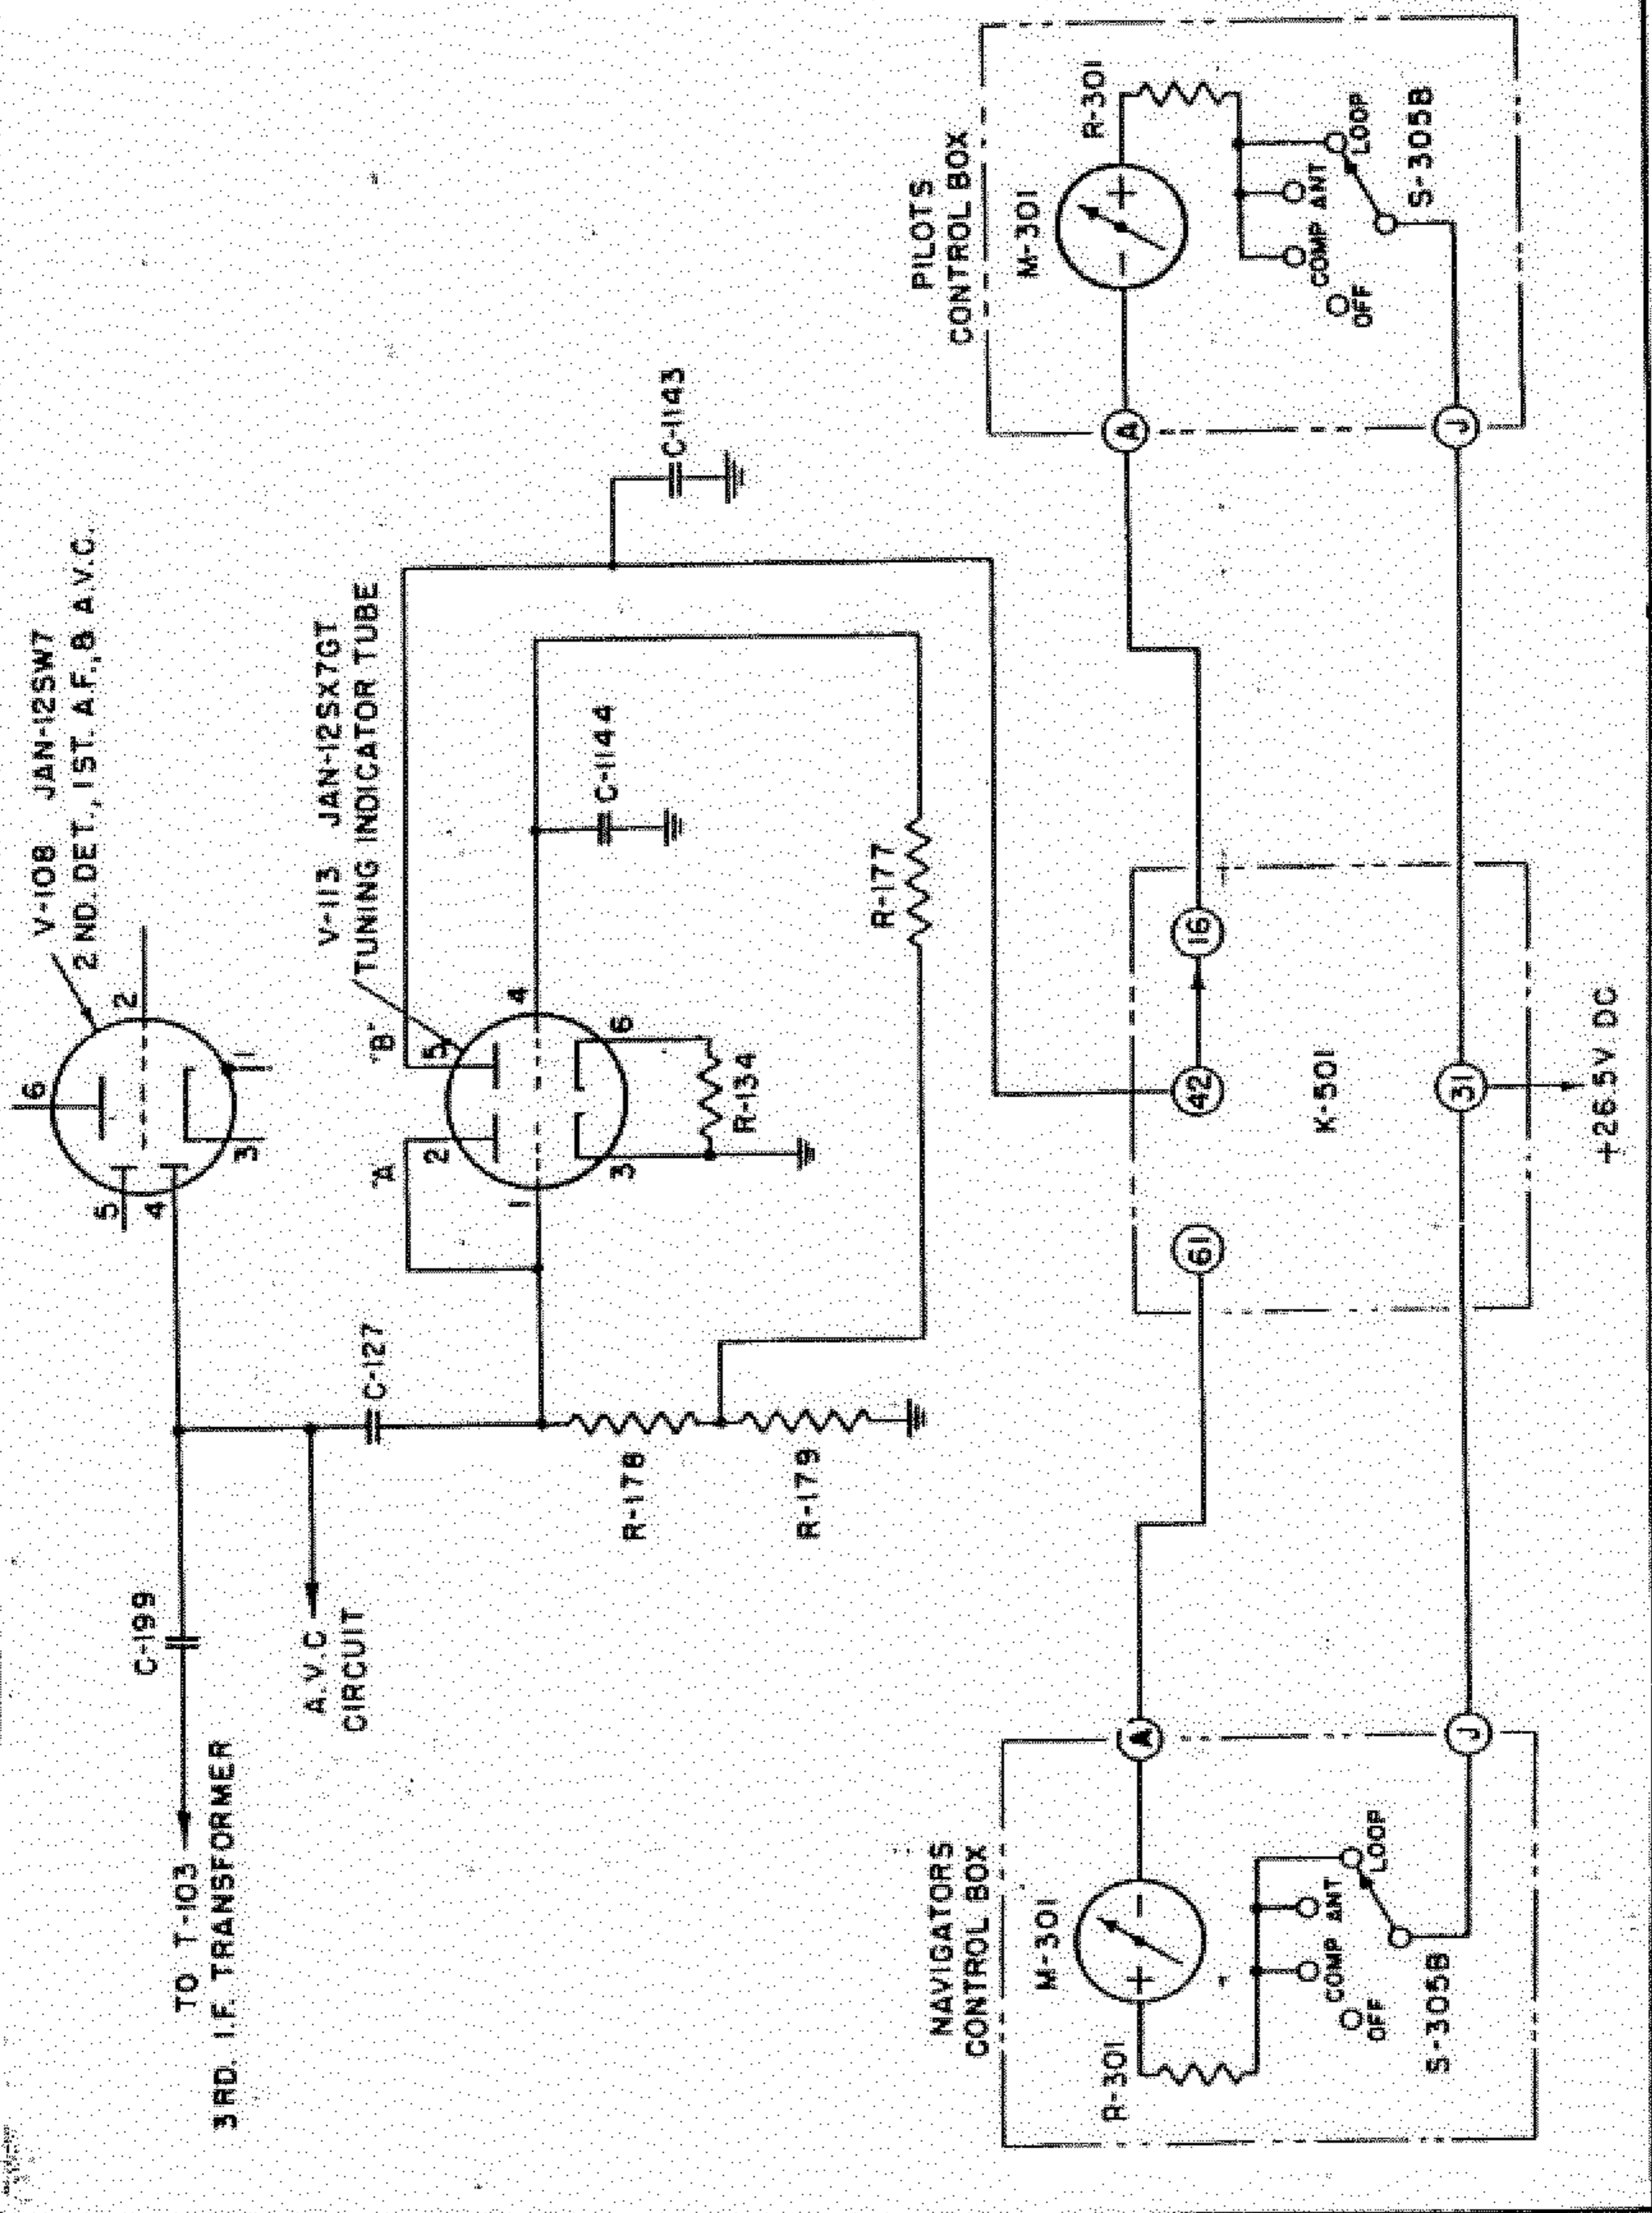
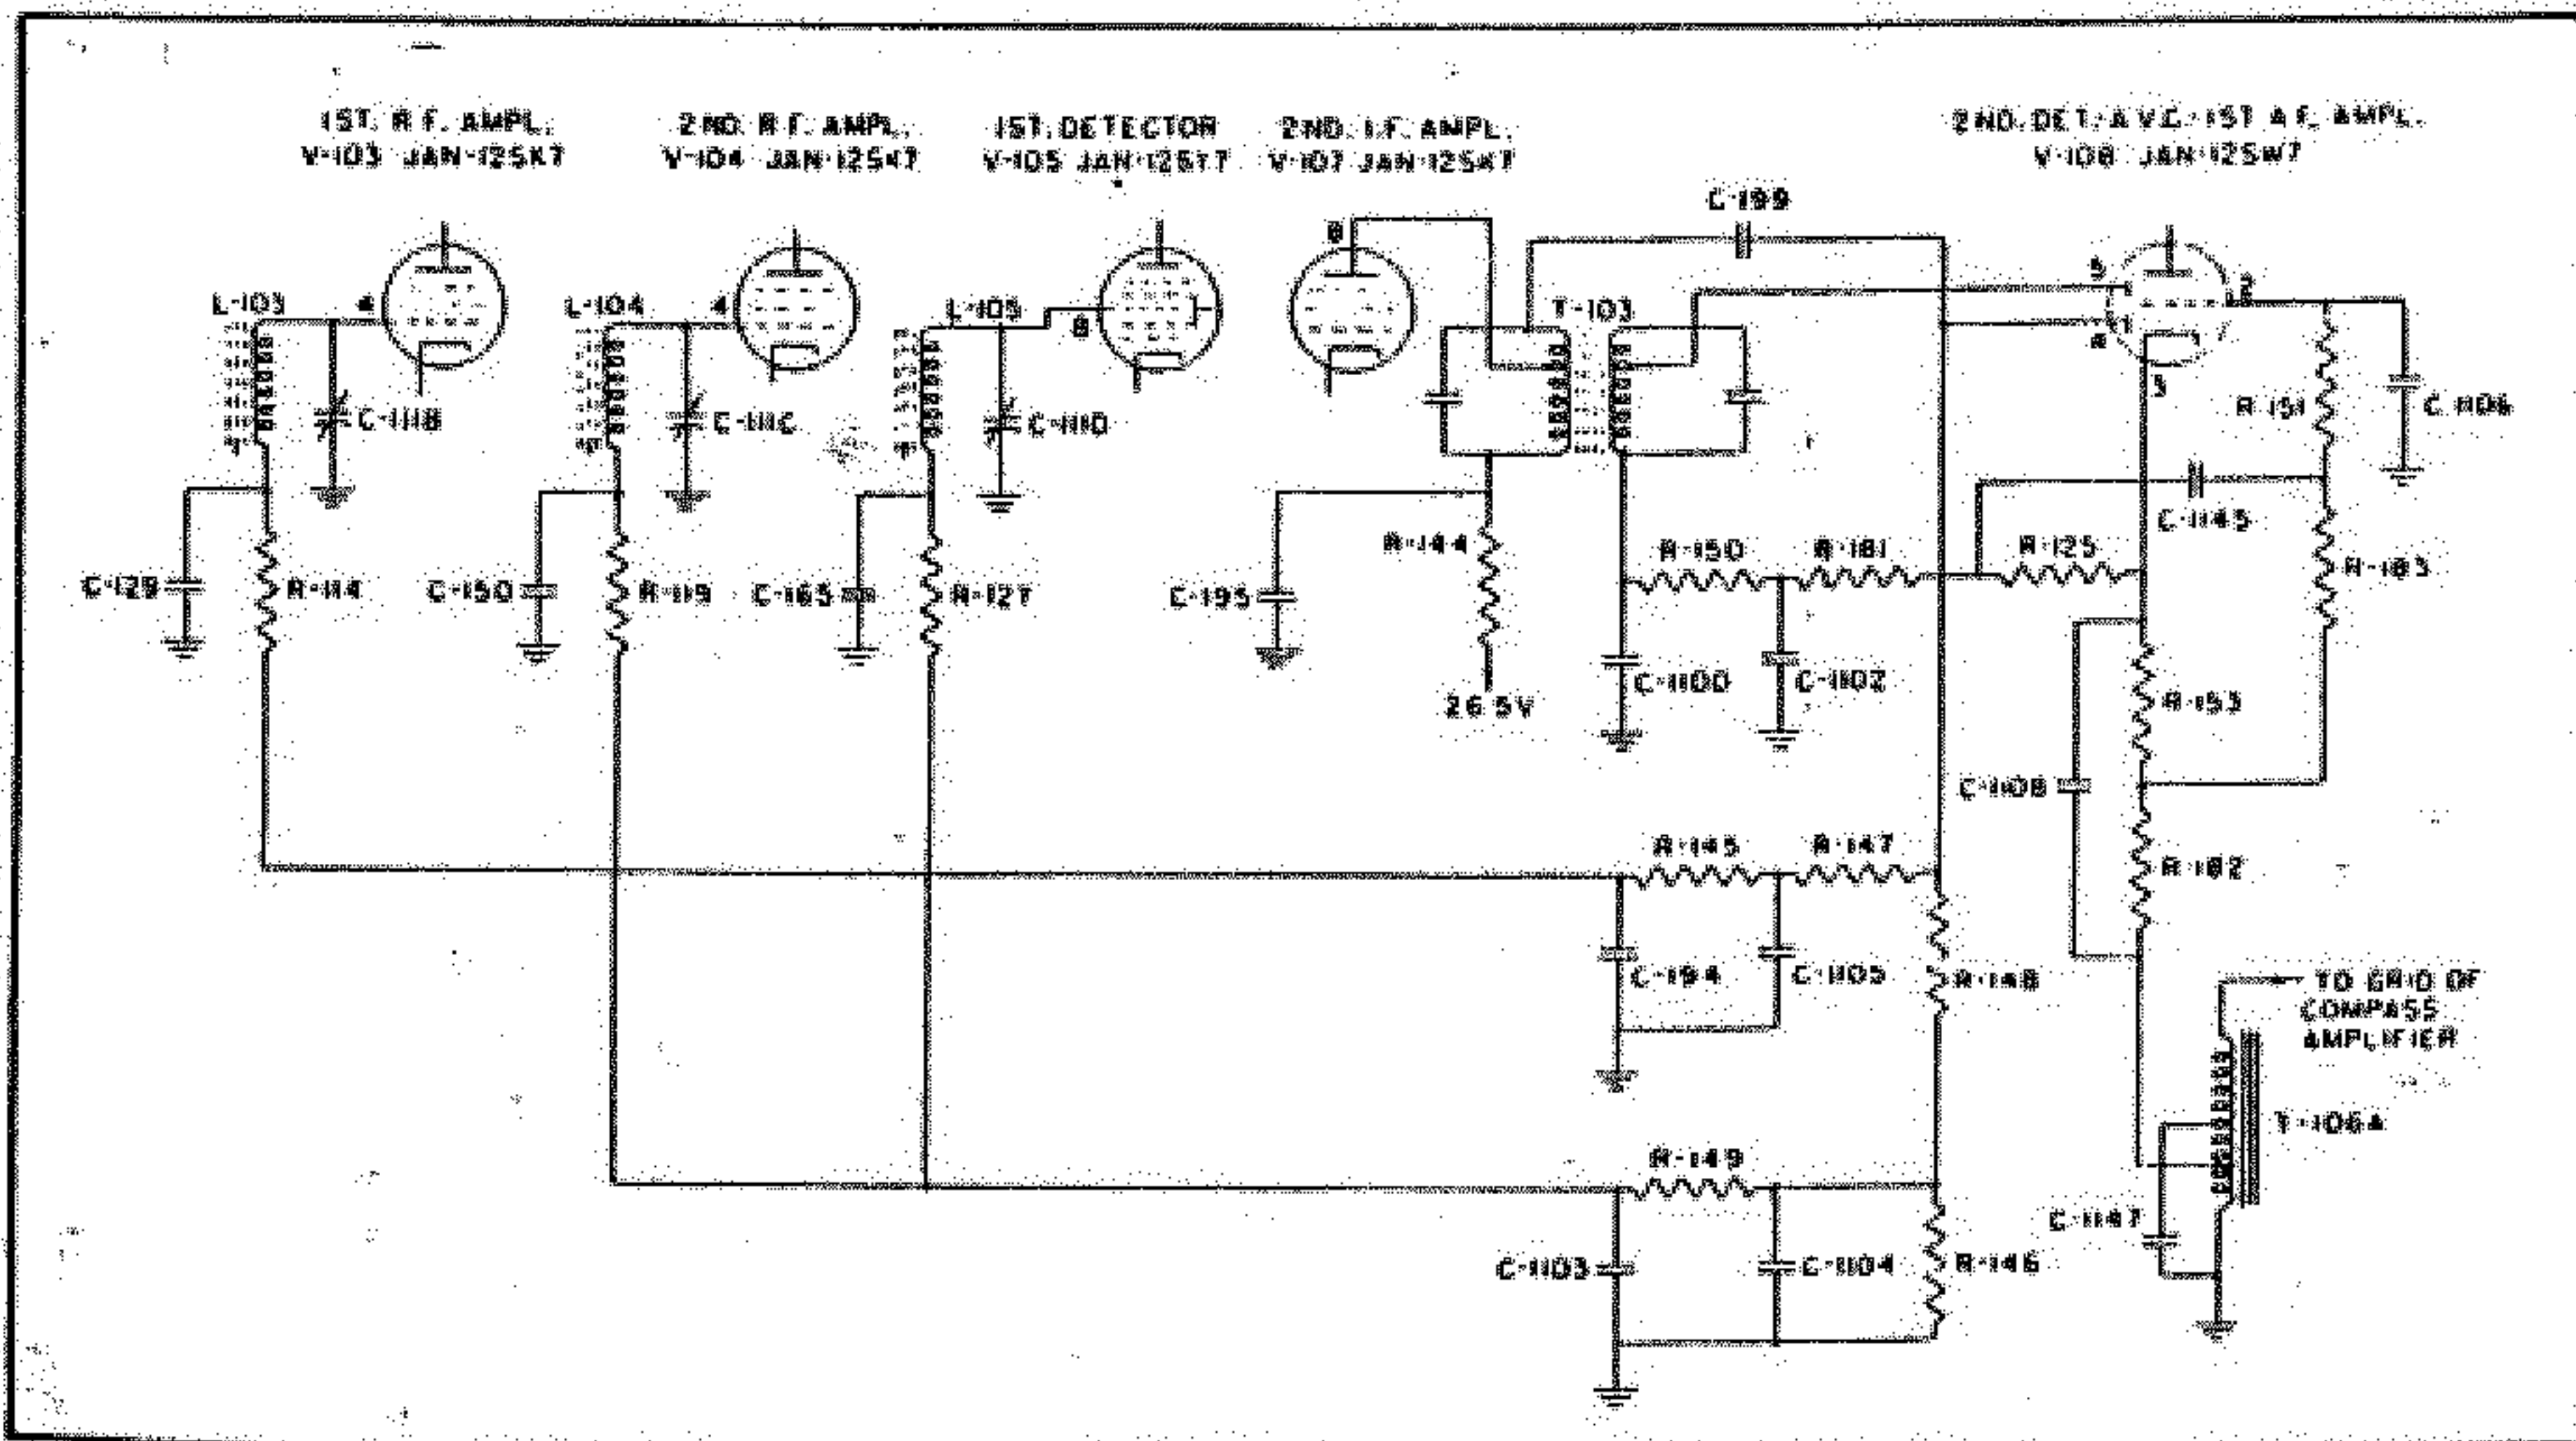

Figure 4-15. Functional Diagram—Tuning Indicator Circuit of Radio Compass Unit R-101/ARN-6
Figure 4-17. Functional Diagram—AVC, Detector, and First Audio Circuit
(2) The threshold sensitivity controls, R-1101, R-1109, and R-1108, are factory or service adjustments; they set the maximum RF gain by the cathode bias method, which can be reduced by audio control R-302C during loop or antenna reception. R-1101 is used in R-101/ARN-6, and R-1101, R-1107, and R-1108 are used in R-101A/ARN-6.
e. TUNING INDICATOR CIRCUIT. (See figure 4-15 or 4-16.)
(1) The output of the second IF stage is fed to diode No. 2 (pin 4) of V-108, through C-199. The rectified voltage is used for the AVC system, but the "ripple" component is fed through coupling capacitor C-127 to 1/2 of V-113, connected as a diode.
(2) The rectified output of V-113 appears across the load R-178, R-179; and a definite proportion of this voltage is applied to the grid of V-113B (in R-101/ARN-6) or V-110B (in R-101A/ARN-6) through the filter R-177 and C-1144.
(3) V-113B (of R-101/ARN-6) and V-110V (of R-101A/ARN-6) are DC amplifiers, and their plate current is measured by tuning indicator M-301.
(4) The result is that an increase of signal strength develops a higher voltage across the load of V-113A (in R-101/ARN-6) or V-113B (in R-101A/ARN-6); this gives a higher negative grid voltage on V-113B (in R-101/ARN-6) or V-110B (in R-101A/ARN-6); this reduces the current in M-301, which causes the pointer to move to the right. (M-301 has a right-zero scale instead of the usual left zero.)
f. AVC CIRCUITS. (See figure 4-17.)
(1) The output of the second IF stage is fed to diode No. 2 (pin 4) of V-108, through C-199. The rectified voltage appears across the series load resistors R-148 and R-146.
(2) The full AVC voltage across both R-148 and R-146 is filtered through R-147, C-1105, R-145, and C-194. This filtered AVC voltage is applied through R-114 to the grid of the first RF amplifier, V-103.
(3) A selected portion of the AVC voltage is taken from the junction of R-148 and R-146, and is filtered through C-1104, R-149, and C-1103. This filtered AVC voltage is applied through R-119 to the grid of the second RF amplifier, V-104, and through R-127 to the signal grid of the first detector, V-105.
**g. SECOND DETECTOR AND FIRST AF AMPLIFIER.** (See figure 4-17.)
(1) Diode No. 1 (pin 5) of V-108 is the detector, which rectifies the signal taken from the secondary of T-103. The resulting AF voltage appears across the diode load R-150, R-181, and R-125, which serves also as an IF filter system in combination with C-1100 and C-1102.
(2) That portion of the AF voltage which appears across R-125 is applied to the grid of the triode, through C-1145 and the additional filter R-151, and C-1106.
(3) The grid is returned through grid leak R-183 to the cathode system to such a point that R-153 is a cathode bias resistor.
(4) Resistor R-182 is not involved in this system. Its function is to increase the cathode potential for reasons applicable to the AVC system only.
(5) Audio output, except the 100-cycle loop-control signal, is taken from the triode plate in the usual way, described in paragraph b, immediately following.
(6) The 100-cycle component of the plate current, used for loop control, is taken from the cathode circuit and passes through a portion of T-106A, where it is resonated by C-1147. The output of T-106A then goes